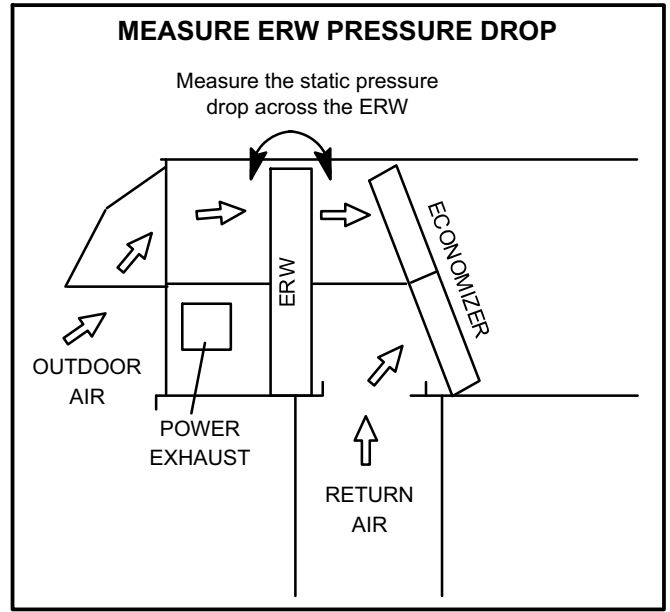

FIGURE 38
- 3- Measure the static pressure drop across the ERW. See figure 38.